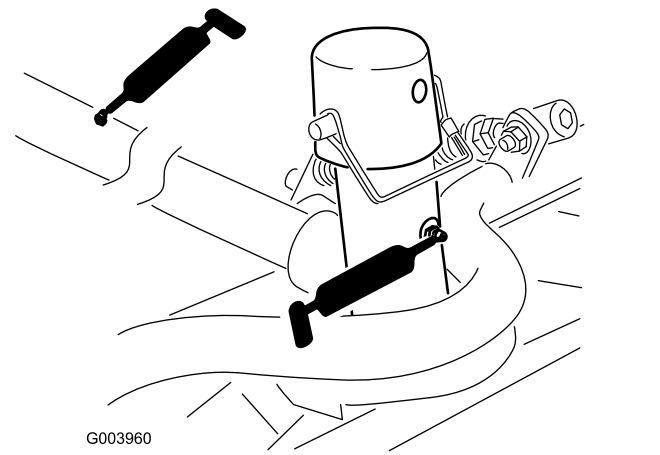

Figure 109
- Cutting-unit carrier-frame and pivot (2 each) (Figure 109)